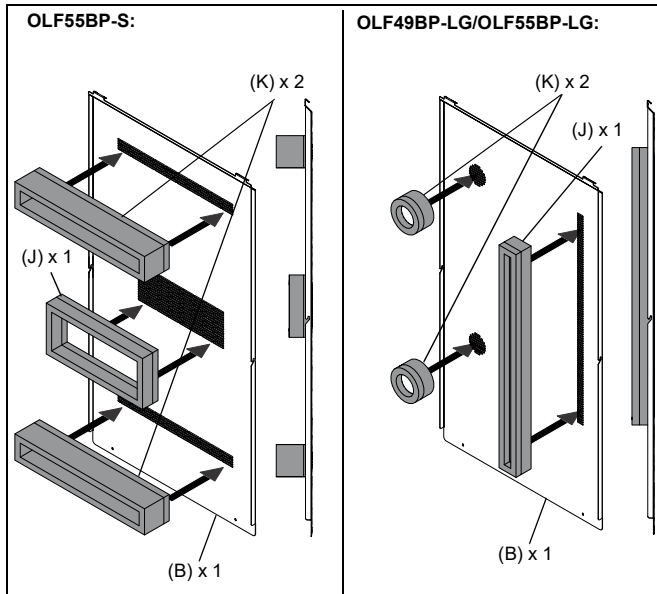

Figure 17
3. Remove adhesive covers from one exhaust baffle (J) and two intake baffles (K), then attach to the inside of the rear bezel (B) around the openings in the panel. (See Figure 17)